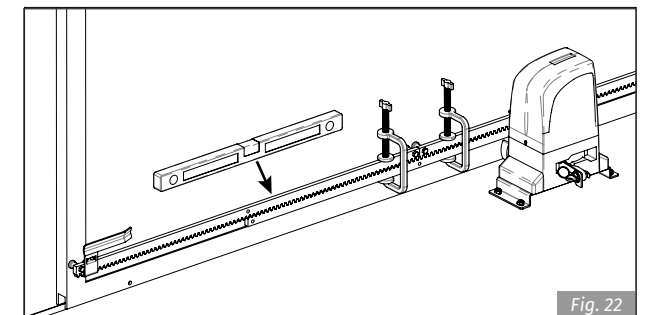

Fig. 22
- 6 • Pull another element of the rack above, using a piece of additional rack teeth to synchronize the two elements (Fig. 22).